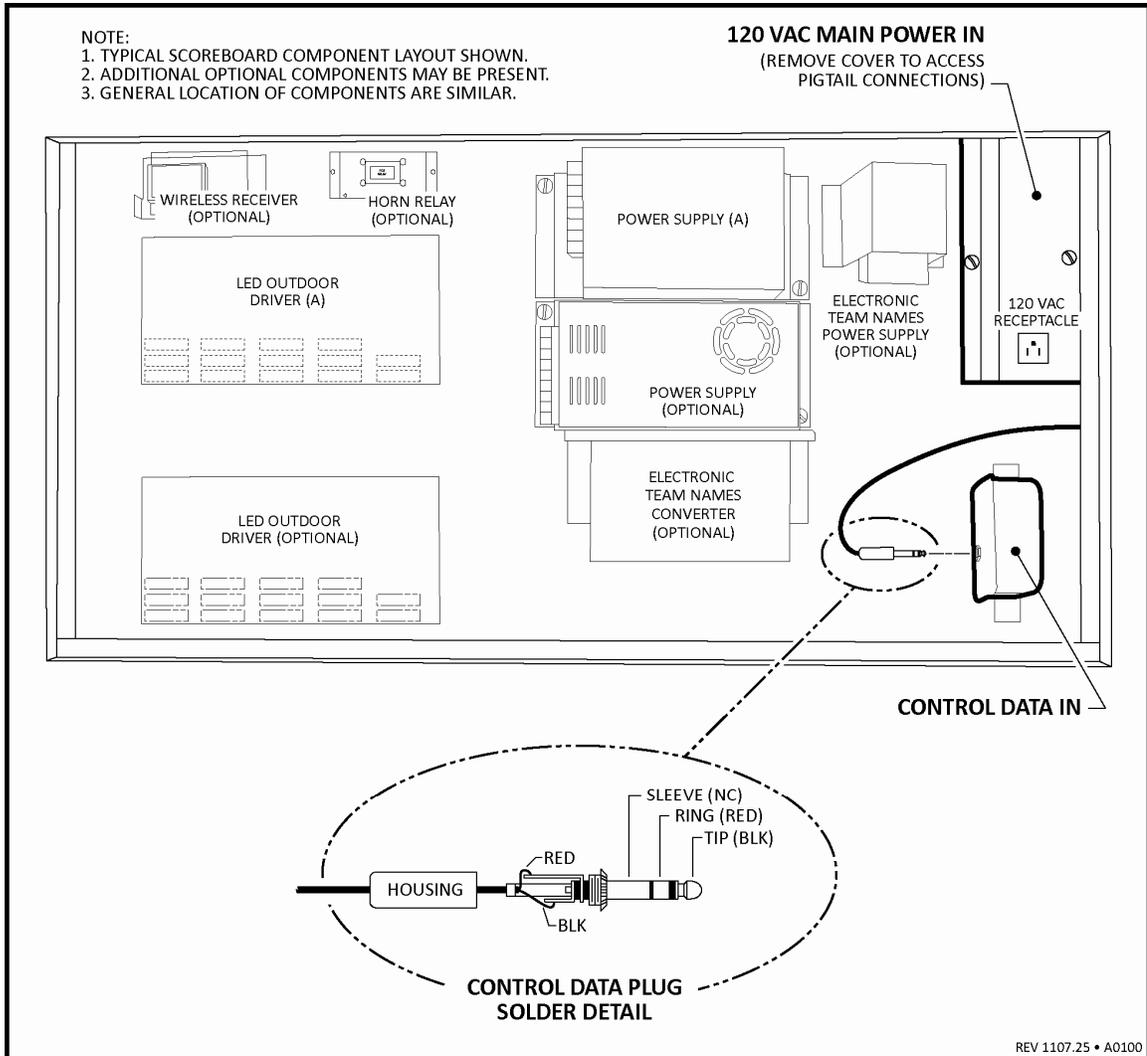

FIGURE 10 — LOCATION OF MAIN POWER IN AND CONTROL DATA IN
- Remove the service door to access the control data and power connections. Refer to Figure 10 below.